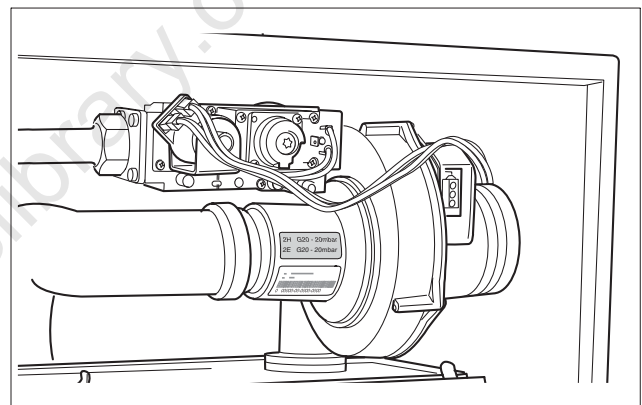

fig. 88 Checking the gas classification label
- Check that the actual gas supply is in accordance with the type of gas supply specified on the gas classification label (fig. 88).